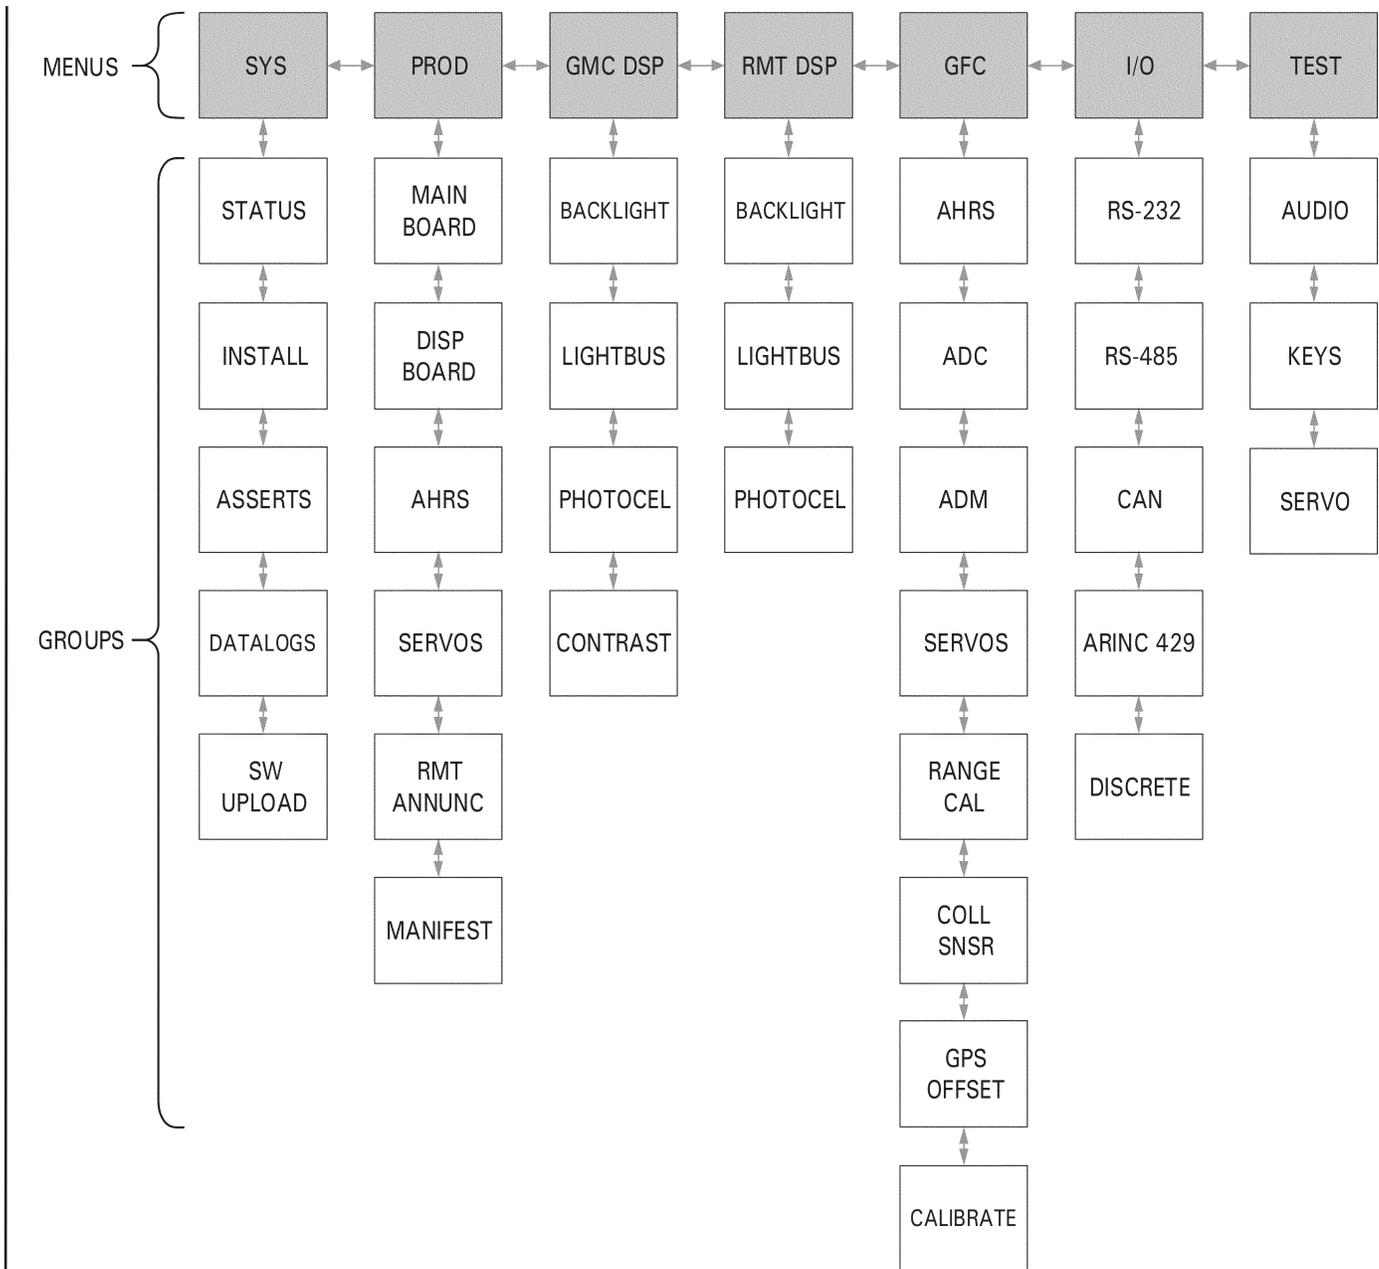

FIGURE 22-7 GARMIN FCS – CONFIGURATION MODE MAP
2. Refer to Figure 22-7. Navigate to GFC menu, SERVOS page.
2. Refer to Figure 22-7. Navigate to SYS menu, INSTALL group, and set/verify each value below:
3. Refer to Figure 22-7. Navigate to GMC DSP menu and set/verify the values for each group below:
4. Refer to Figure 22-7. Navigate to GFC menu, GPS OFFSET group, and set/verify each value below:
5. Refer to Figure 22-7. Navigate to TEST menu, AUDIO group, and set/verify each value below:
6. Refer to Figure 22-7. Navigate to SYS menu, then SW UPLOAD page.
11. Refer to Figure 22-7. Navigate to PROD menu and verify software version on each page matches those listed in the appropriate helicopter delivery range at: <https://robinsonheli.com> > Customer Support > Avionics Support > Avionics Software and Approximate Helicopter Delivery Dates.
3. Refer to Figure 22-7. Navigate to SYS menu then ASSERTS page or DATALOGS page, as required.
4. Refer to Figure 22-7. Navigate to GFC menu, RANGE CAL group, then select appropriate PITCH/ROLL/YAW page.